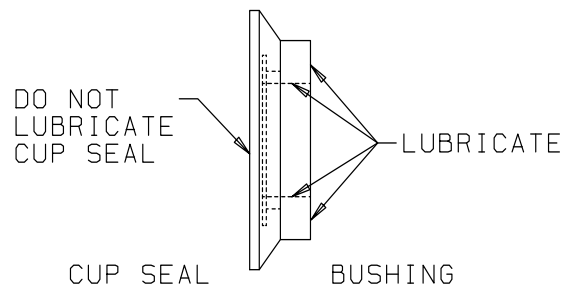

Figure 8-1 Lubricate shaft seal
1. Assemble the beater shaft seal on the washer to complete the beater shaft seal assembly. Apply a moderate amount of approved sanitary lubricant (such as Lubri-Film Plus or equivalent) to the internal surface of the plastic washer. Do not allow any lubricant to come in contact with the bell-shaped rubber portion of the seals (figure 8-1).